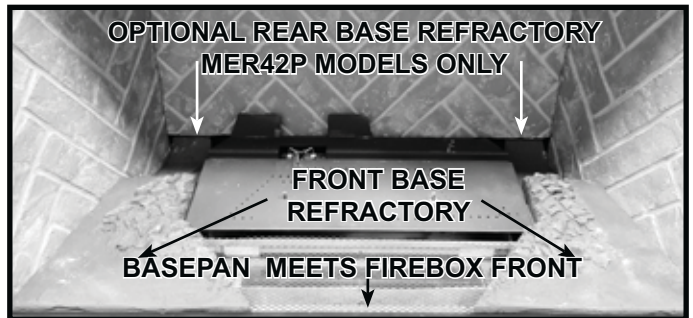
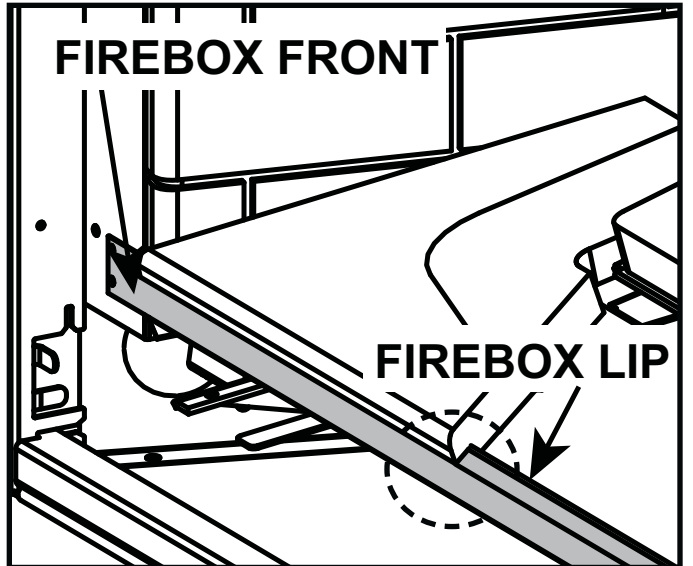

Figure 11.8 MER42P Models Only: Base Refractory Pieces Installed
Figure 11.9 Front Base Refractory Installed
- Prior to placing base refractory, ensure the basepan is centered left to right and is positioned forward enough that it contacts the firebox front as noted in Figure 11.8. Place the two front base refractory pieces as shown in Figure 11.8. Ensure that the profile of the refractory fits over the firebox lip as shown in Figure 11.9.